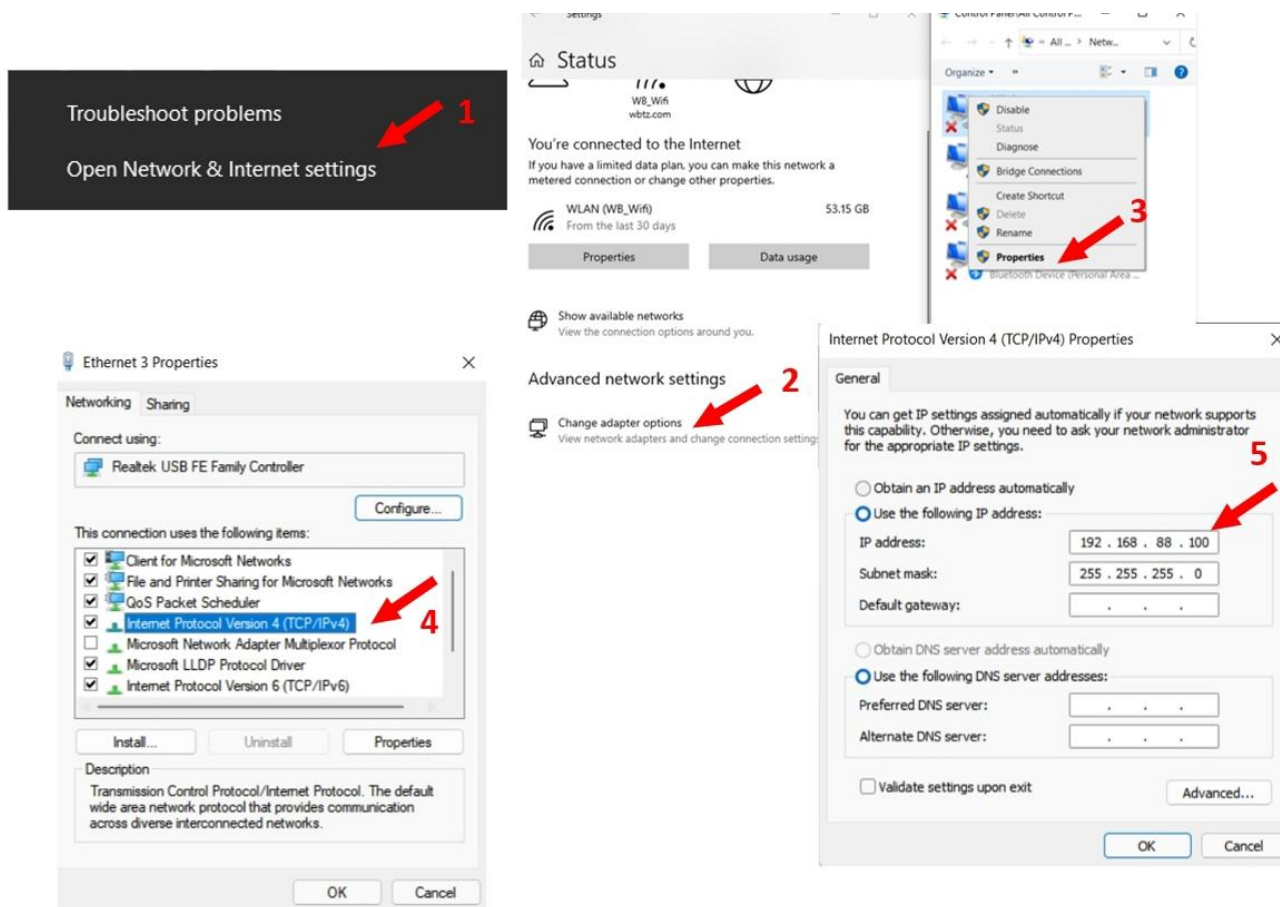

Figure 5-1 IP Address Configuration
(1) Configure the IP address of laptop as shown in Figure 5-1.